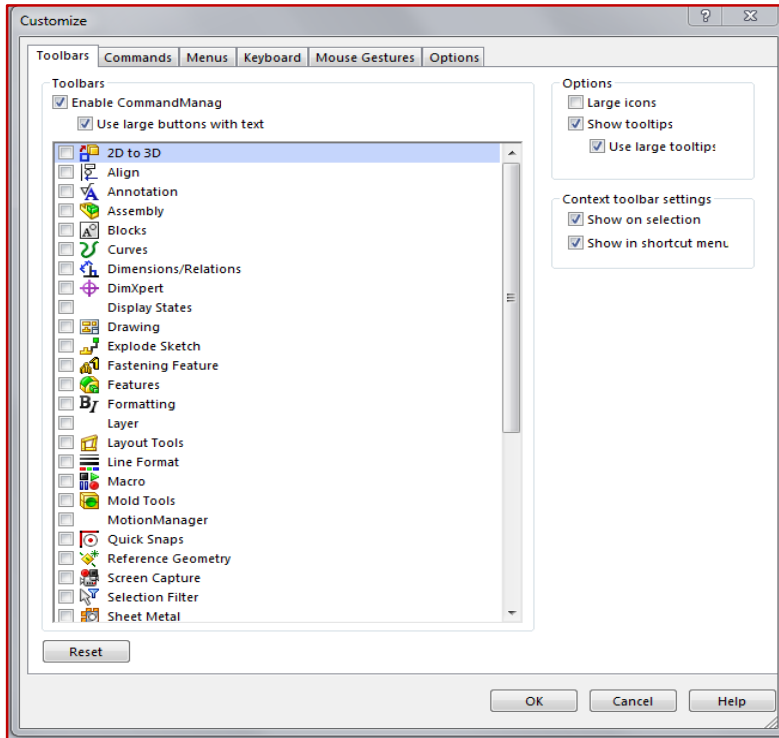

Figure 2.2 – View→Toolbars→Customize
- ✓ If you click **Options**→**Customize** in the **Quick Access toolbar**, the menu in Figure 2.2 appears. It is another way of selecting which toolbars can be seen on the desktop. You can select which toolbars are shown by clicking to add the checkmark.
- ✓ Two other ways of getting the menu in Figure 2.2 are by clicking **Tools**→**Customize** in the **Main Drop-down Menu** or by clicking **View**→**Toolbars**→**Customize**.